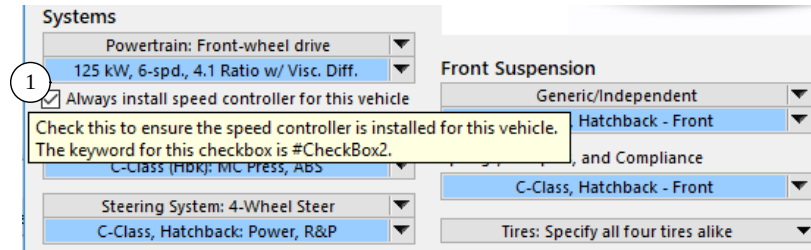

Figure 26. Checkbox on Vehicle screen to install SC with a vehicle.
For simulations that do not use SC at the start, but will use it later in the run, a checkbox on the Vehicle screen ① (Figure 26) may be used to ensure SC will always be available when simulating that vehicle. Another option is to put the command INSTALL\_SPEED\_CONTROLLER in a miscellaneous yellow field of the **Run Control** or **Procedure** dataset.